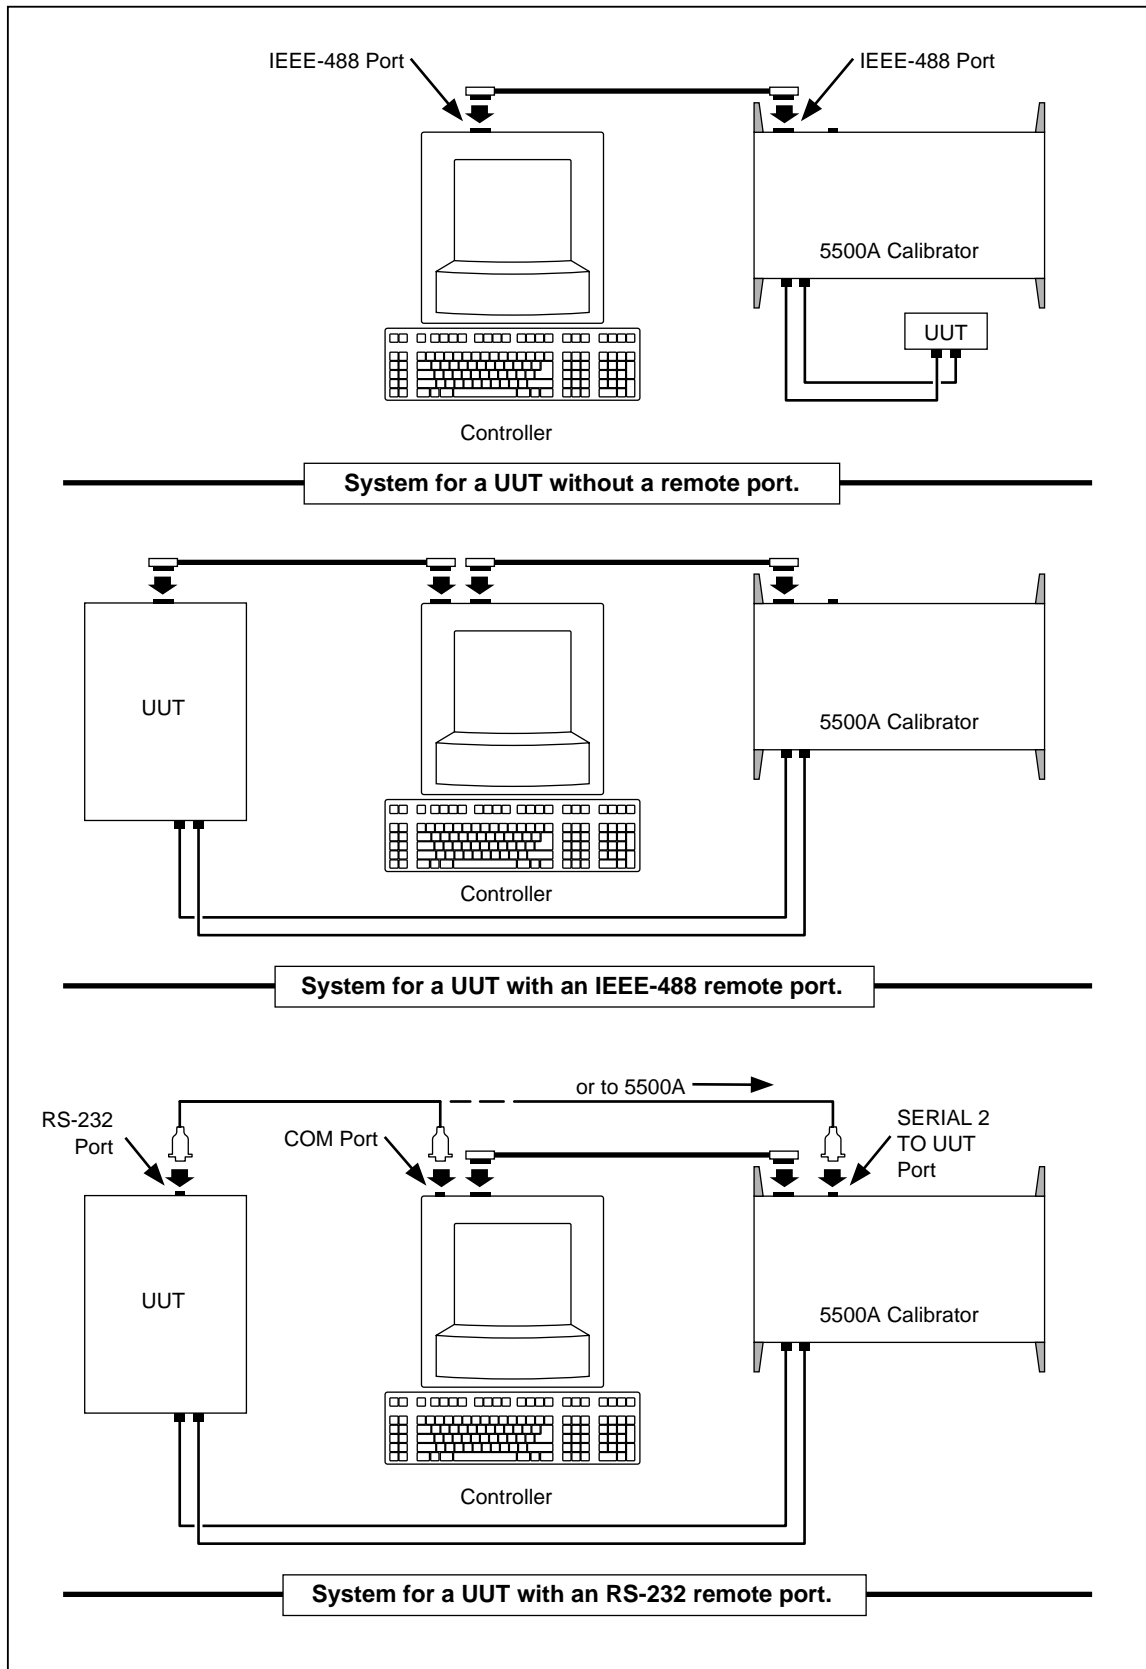

Figure 5-1. Typical IEEE-488 Remote Control Connections
**IEEE-488** The IEEE-488 parallel port is usually used in larger control and calibration systems. An IEEE-488 system is more costly to set up, but has the ability to serve multiple 5500A Calibrators and multiple UUTs. Also, parallel system throughput is faster than serial system throughput. The controller in an IEEE-488 system is typically a MS-DOS compatible personal computer (PC) equipped with one or more IEEE-488 ports. You can write your own computer programs for system operation using the command set, or you can purchase optional Fluke calibration software MET/CAL or 5500A/CAL, and property management software MET/TRACK. Typical IEEE-488 configurations are shown in Figure 5-1. The configuration showing the PC with two IEEE-488 ports is used with MET/CAL, which prefers UUTs on a separate IEEE-488 port. You can also “piggy-back” the connectors on a single IEEE-488 port.
The SERIAL 2 TO UUT serial data port connects a UUT to a PC or terminal via the 5500A Calibrator (Figures 5-1 and 5-2). This “pass-through” configuration eliminates the requirement for two COM ports at the PC or Terminal. The UUT\_\* commands (see Chapter 6) handle the UUT port data flow.
Complete the following procedure to set up the SERIAL 2 TO UUT port (defaults in **bold**). The RS-232 parameters you are selecting must match the RS-232 parameters of the UUT. This port operates independently, whether the 5500A Calibrator is controlled from the IEEE-488 port or from the RS-232 Host serial port. (See Figures 5-1 and 5-2.)